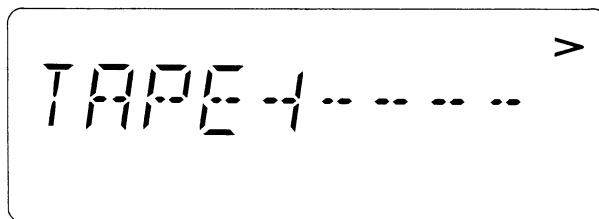

Fig. 1
2. Press the numeric keys "4" and then "7" on the remote controller while holding down the tape stop (STOP) button on this unit. The LCD indicators will appear as refer to Fig. 1.